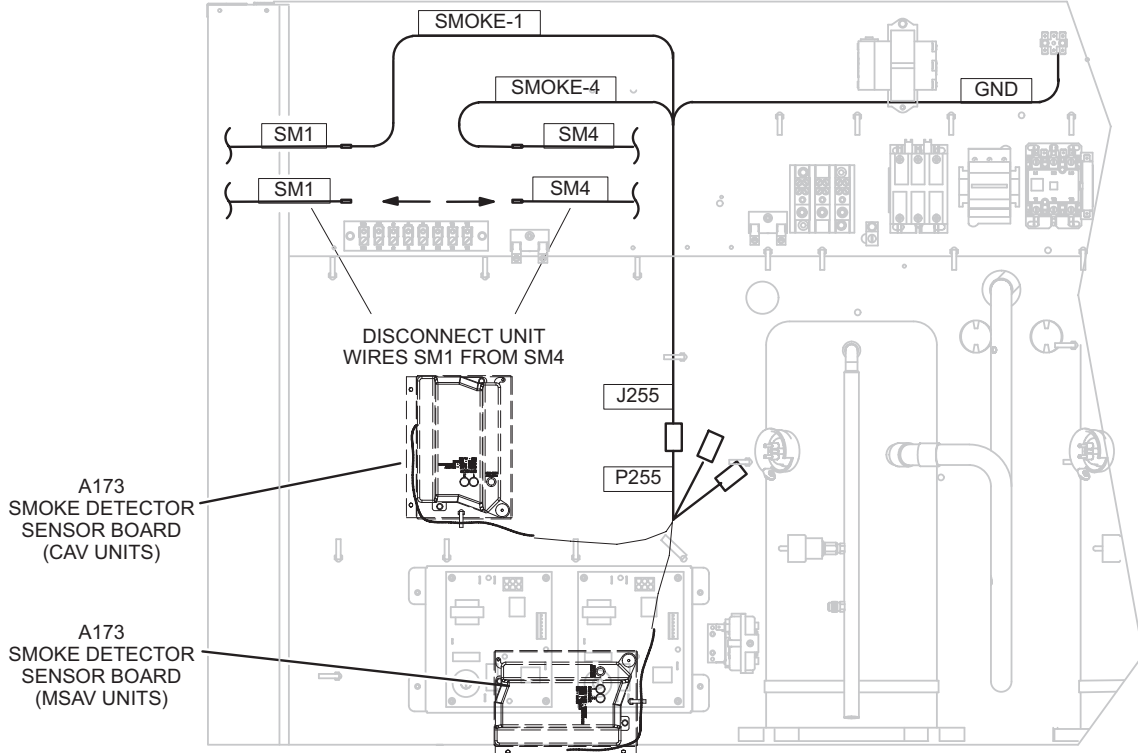

FIGURE 3
Install the power board next to the compressors using the bracket provided in the kit. See FIGURE 3.
- 1 - Locate and disconnect wires labeled SM-1 and SM-4 in control area. See FIGURE 3.